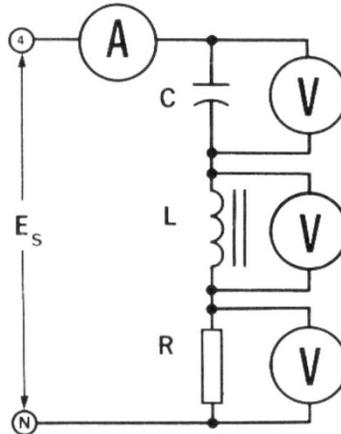

Figure 03-7.
- 3) Using the Variable resistance, Variable capacitance, and Variable inductance modules, construct the circuit shown in Figure 03-7:
Next, without turning the PS OFF and readjusting the input voltage, reconstruct the circuit Figure 03-7 by connecting the voltmeter EI back to its original position. Note: **use extra caution when making any connections while the power in the circuit is ON even though the circuit voltages are relatively low!**